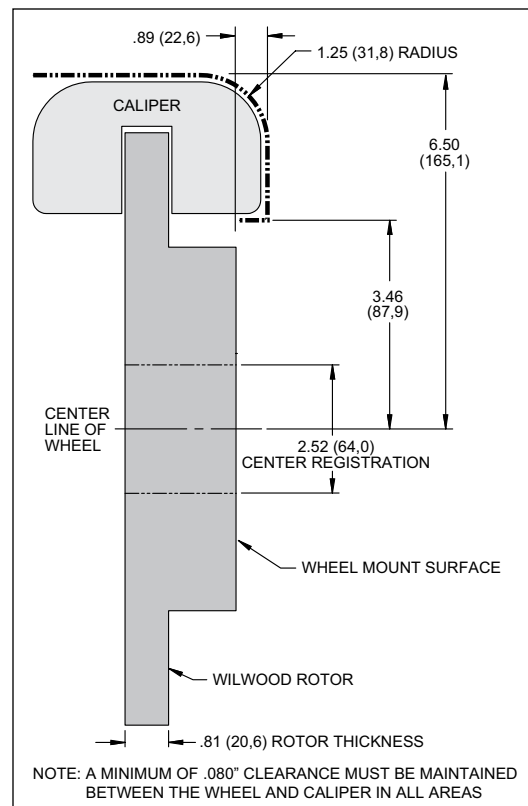

Figure 3. Wheel Clearance Diagram
- Review the wheel clearance diagram (Figure 3) to verify that there is adequate clearance with the wheels you will be using with the installation.
• Verify your wheel clearance using Figure 3.